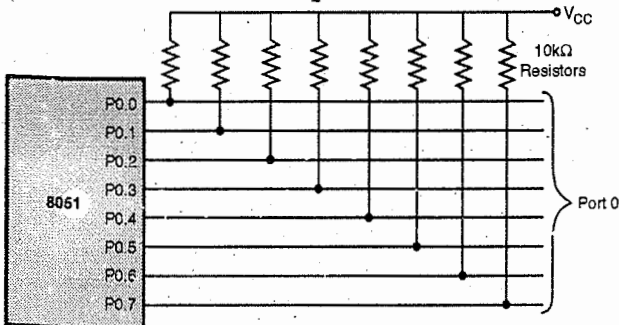

Fig. 1.17.2 : Port 0 with, Pull-up resistor
- In order to use the pins of port 0 as input and output each pin must be connected to 10 KΩ pull up resistor as shown in Fig. 1.17.2. It is because Port 0 is an **open drain**.